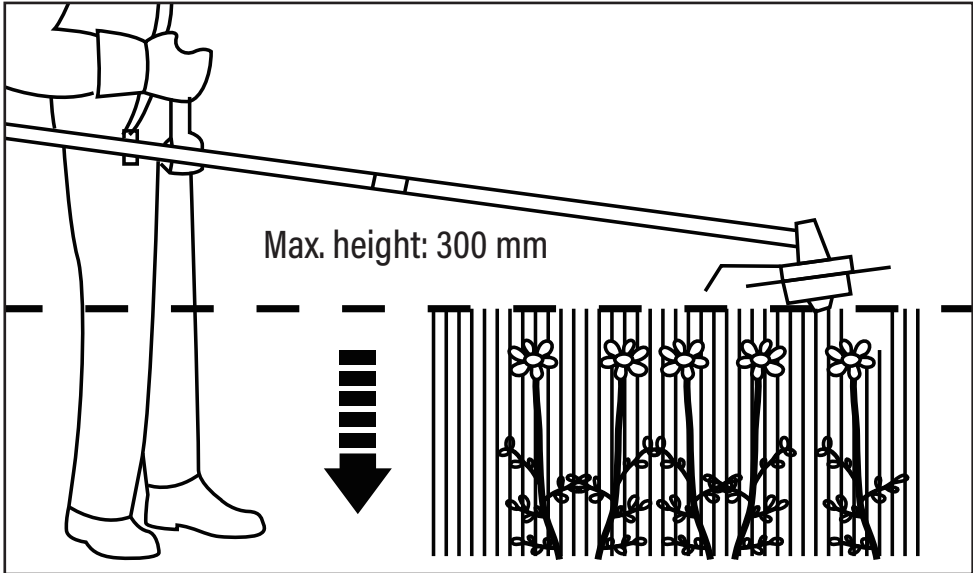

Fig. 11
- Do not lift the cutting attachment higher than your knee. The higher you hold the cutting attachment, the higher the risk of objects being thrown (Fig. 11).